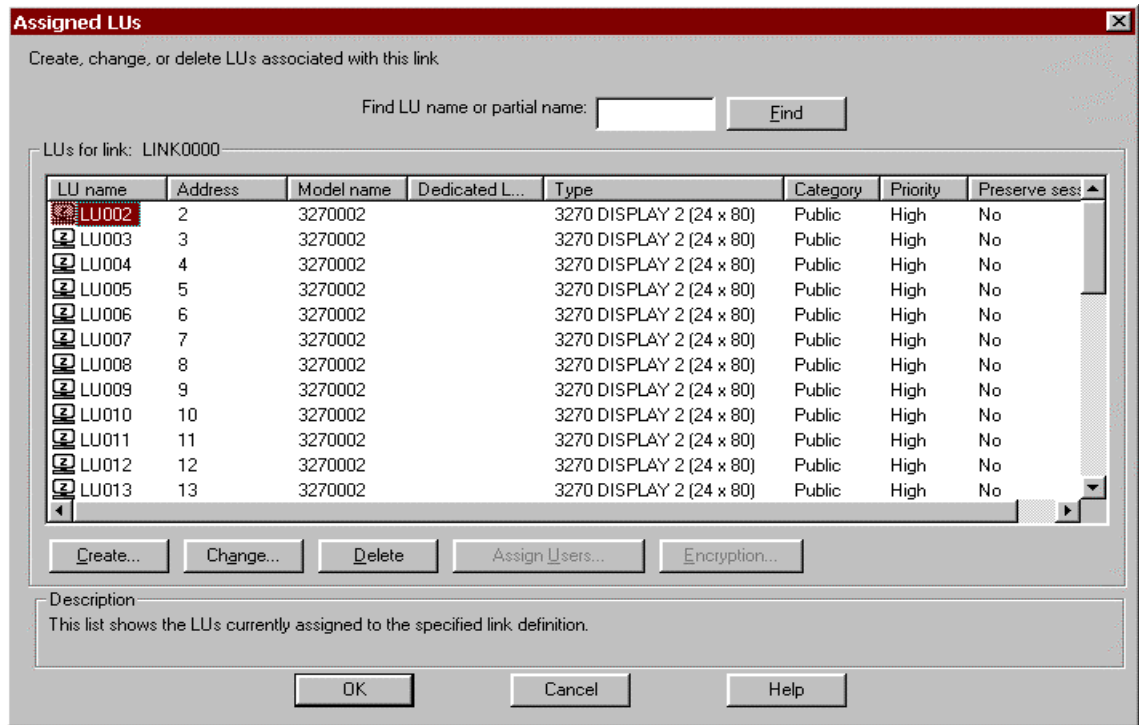

Figure 11-21. Assigned LUs
9. Click **OK** to create the LUs. The **Assigned LUs** screen will display (Figure 11-21).